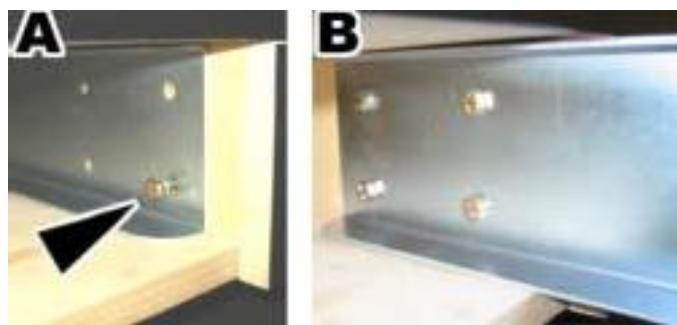

Figure 3. *Installing the Seat Runners*
2. The seat runners may be packaged and placed with the seat or cabinet, or installed backwards in the cabinet. If the seat runners are installed backwards for shipping, use a 7/16" socket wrench to remove the four (4) 1/4-20 x 1-1/4" hex bolts with lock washers and flat washers that hold each seat runner inside the cabinet. See item A in Figure 3 below.
3. Insert the seat runners so that they extend out from the cabinet, as shown below. Secure them with the four (4) 1/4-20 x 1-1/4" hex bolts with lock washers and flat washers.